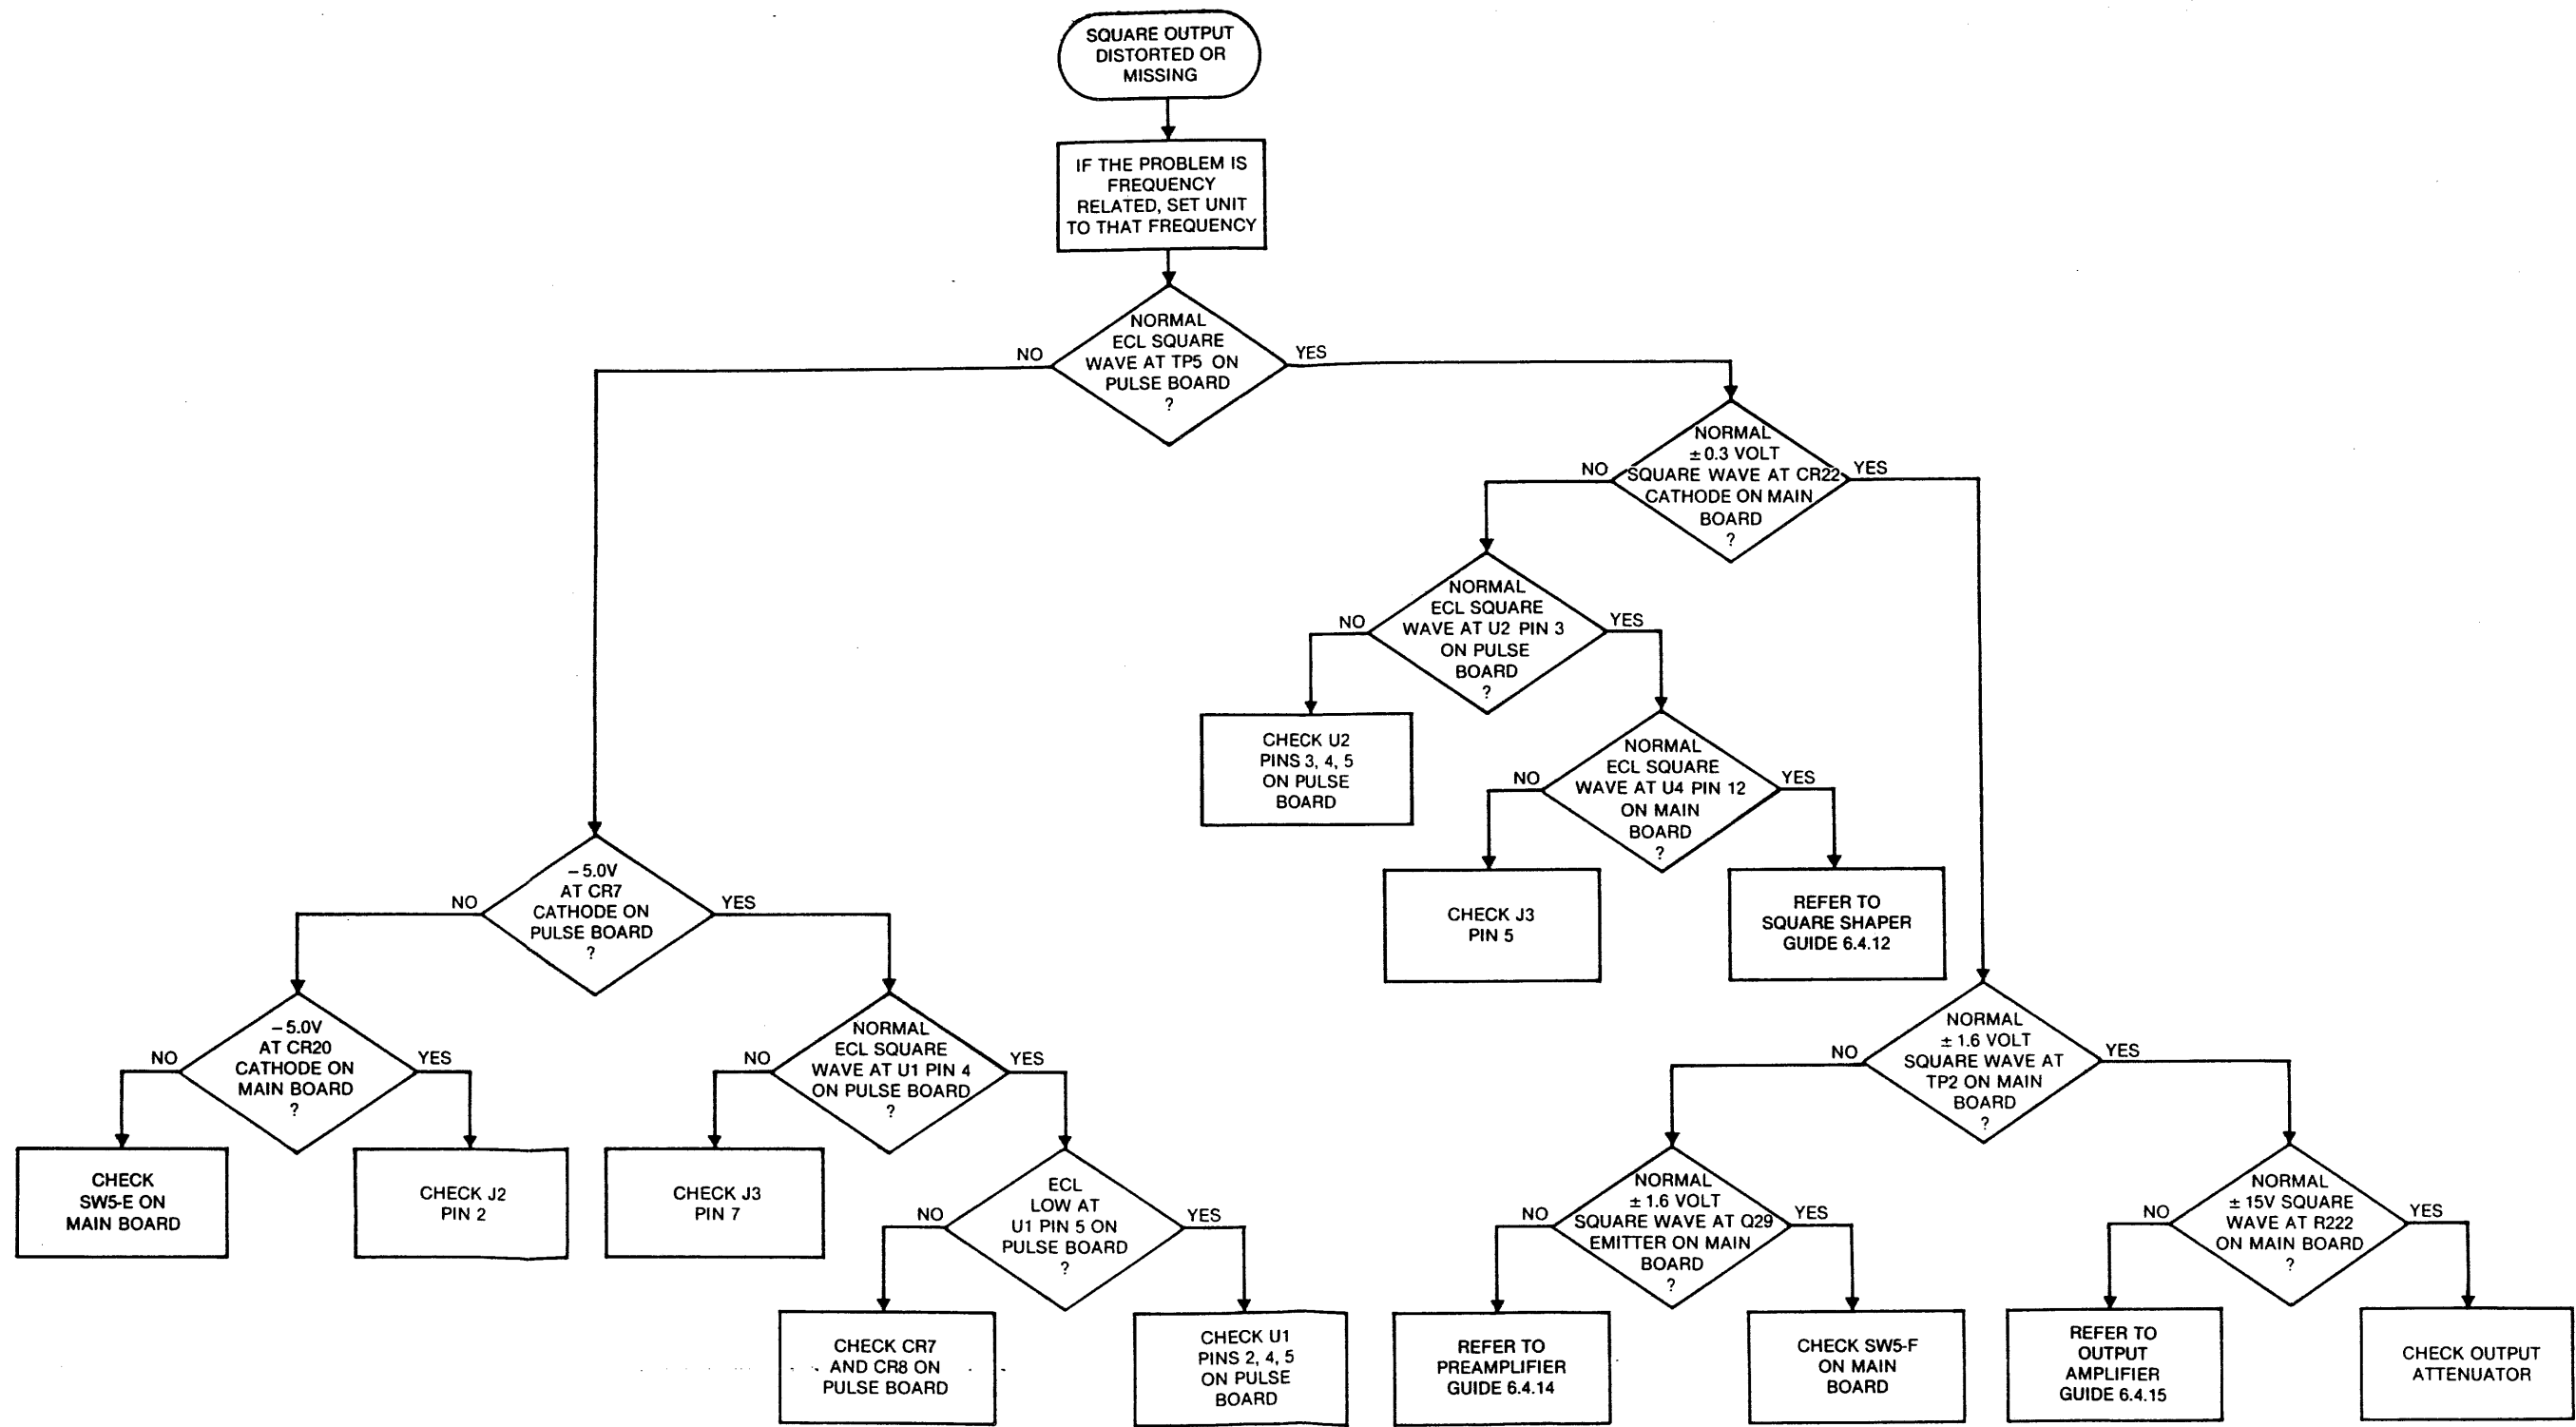

Figure 6-2. Square Output Troubleshooting
- If none of the above conditions apply, refer to figure 6-2.